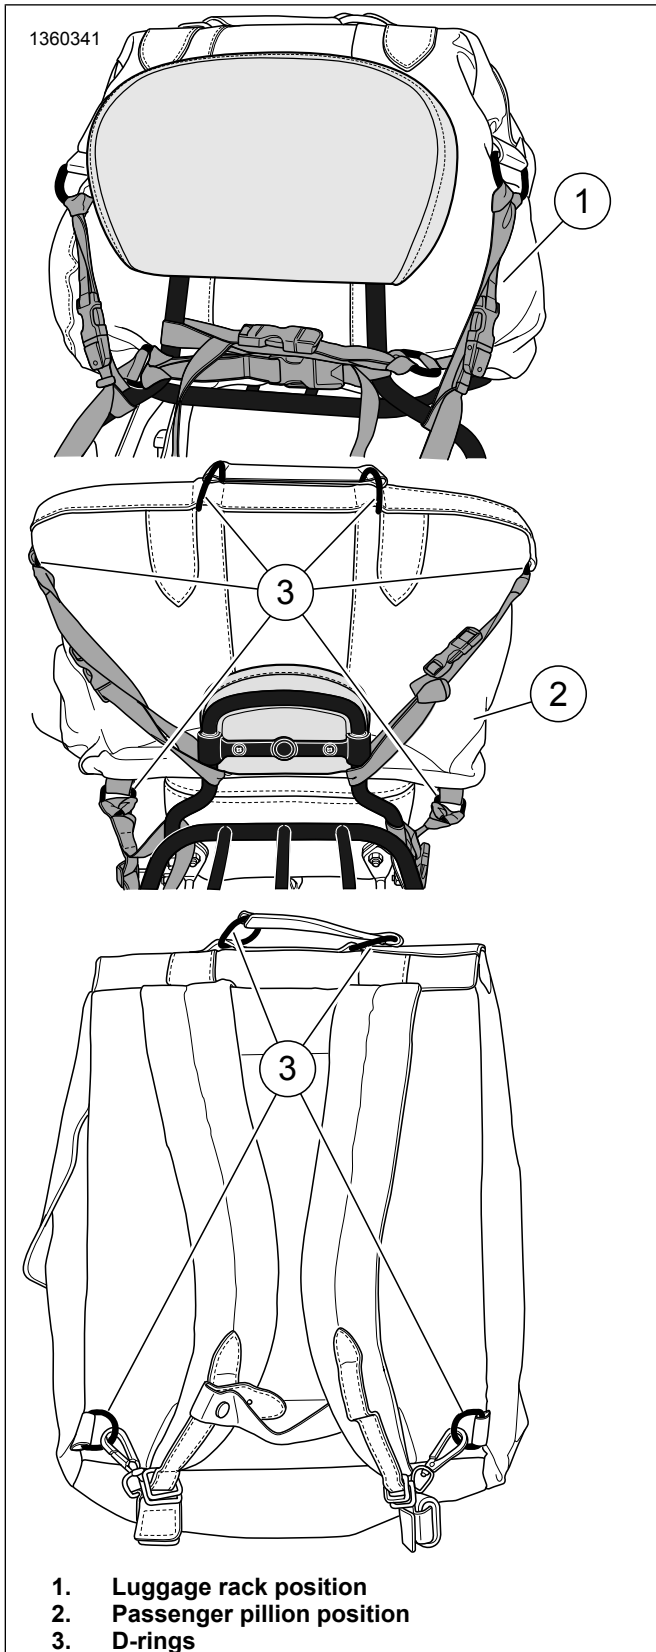

Figure 6. Luggage Rack_Passenger Pillion Install
- a. See Figure 5 and Figure 6. Loop straps through D-rings (3).
3. Quick Release Buckles Attach a minimum of four quick release buckle straps (5).
- a. Figure 6 For smaller luggage racks and passenger pillions, bottom quick release buckle straps can be criss-crossed to ensure mounting straps can be fully tightened to secure luggage to vehicle.